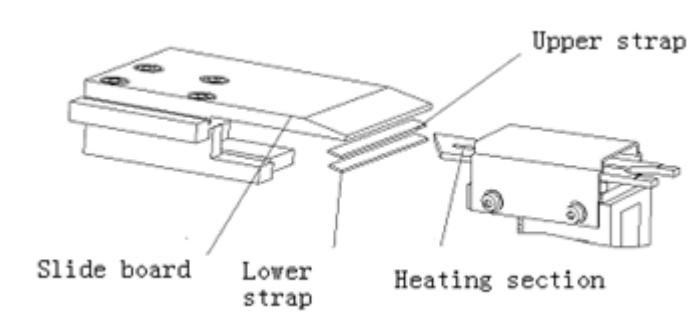

Fig. 4-5
2. Deformation of the heating element (Fig. 4-5)